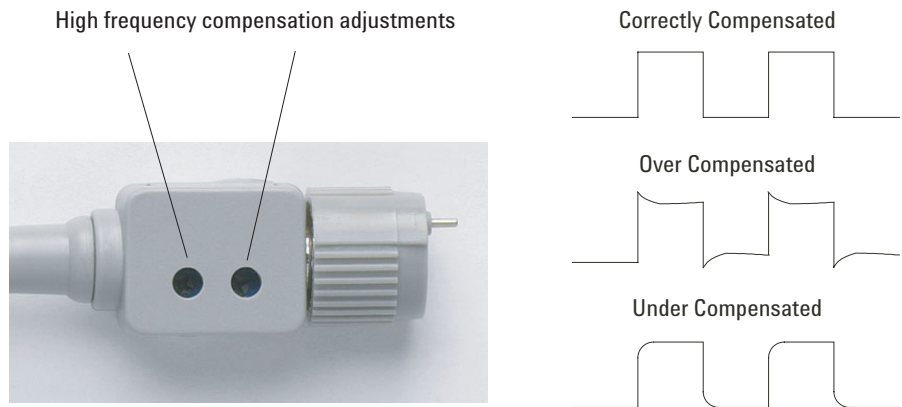

Figure 8 High Frequency Probe Compensation
- 4 If waveform does not appear like the Correctly Compensated waveform shown in Figure 8, then use a nonmetallic tool to adjust the 2 high frequency compensation adjustments on the probe for the flattest square wave possible.